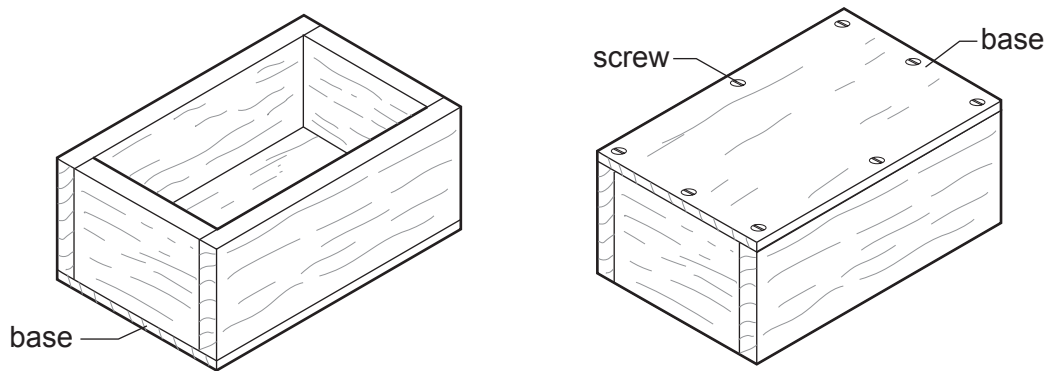

Fig. 9.1
- 9 Fig. 9.1 shows views of a small box made of hardwood. The hardwood base has been glued and screwed to the sides of the box.